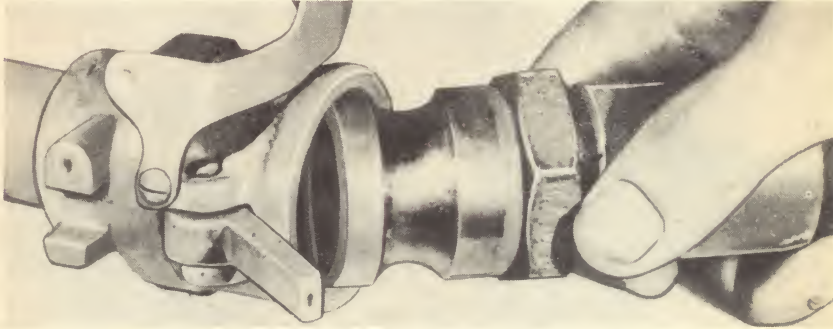

Fig. 11. Inserting hose in coupling.
(1) See if coupling washer, made of synthetic rubber, is in place in coupling body. If it is damaged or swollen, install new washer from spare parts kit.
(2) Insert unthreaded hose nipple or coupling plug in coupling as far as it reaches (fig. 11).